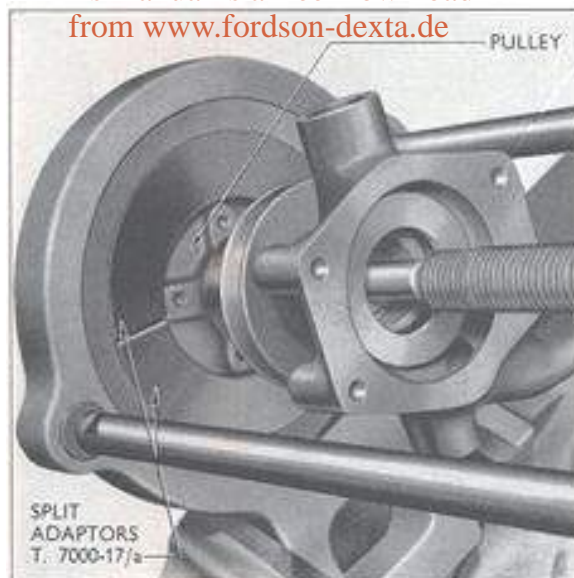

Fig. 40
2. Press the pulley onto the front end of the shaft until it is flush with the end of the water pump shaft, using the split adaptors as shown in Fig. 40.